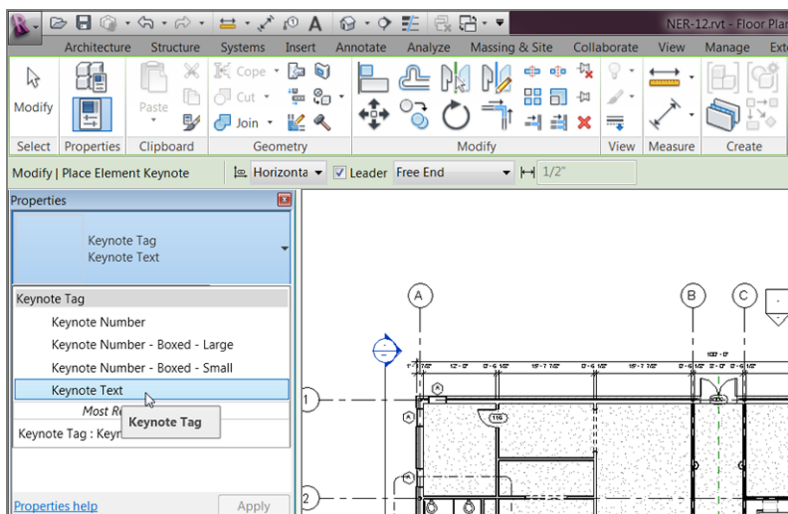

FIGURE 11.85: Choosing Keynote Tag > Keynote Text
4. In the Type Selector, click Keynote Tag > Keynote Text, as shown in Figure 11.85.